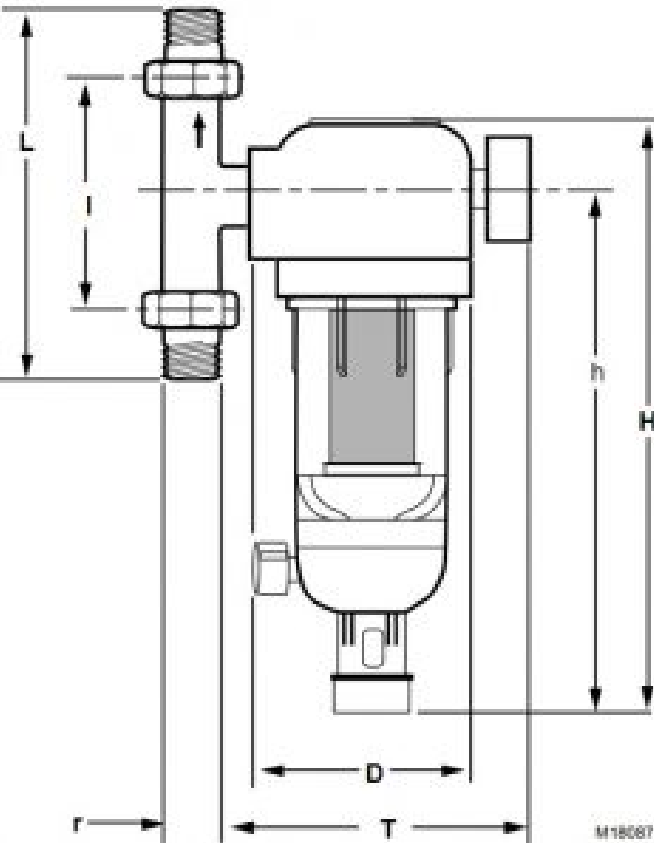

Fig. 1. Dimension drawing of F74C.
- **Dimensions:** See Fig. 1 and Table 1.